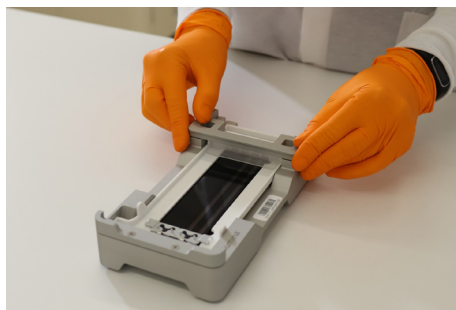

Figure 8. Closing the clamp
10. Close the clamp to secure the flow cell and manifold (*Figure 8*). Seal the gaskets.